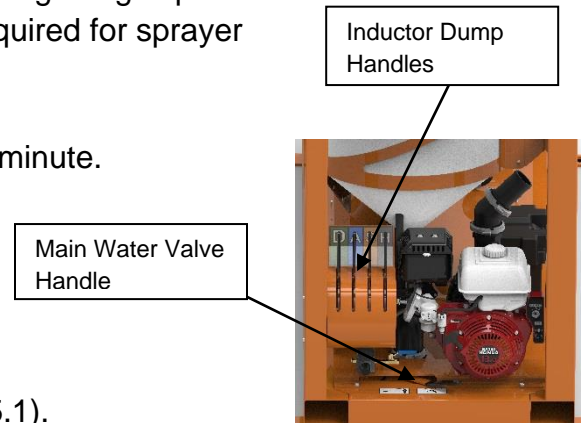

Figure 5.2: Chemical Dump Handles and Pump Motor
9. Hook main hose to sprayer and empty all inductors using the gas powered water pump (Figure 5.2). Add more fresh water as required for sprayer rinse.